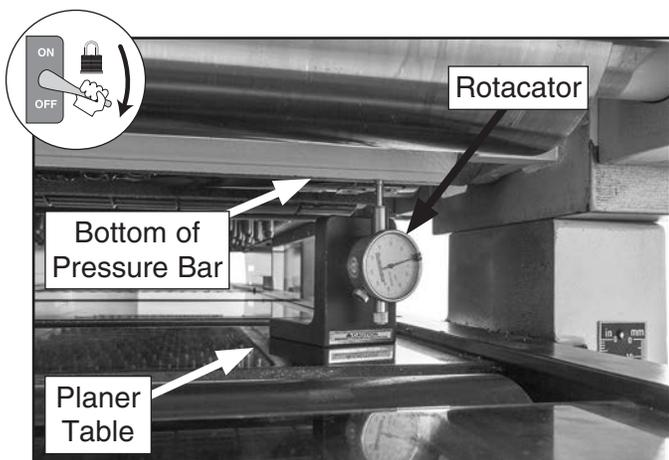

Figure 120. Rotacator placed underneath left-side of pressure bar.
3. Place Rotacator or dial indicator on planer table underneath left-side of pressure bar (see **Figure 120**).